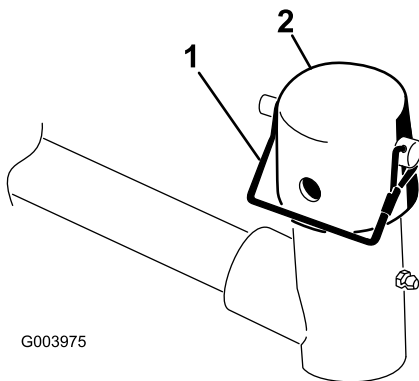

Figure 10
7. Remove the snapper pin and the cap from the lift arm pivot yoke (Figure 10).
11. Secure the cap and the carrier frame shaft to the lift arm yoke with the snapper pin. Use the slot if a steering cutting unit is desired or use the hole if the cutting unit is to be locked in position (Figure 10).